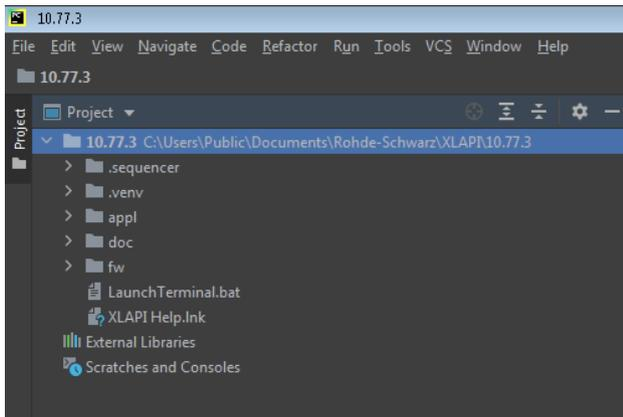

Figure 76 XLAPI project structure
- ▶ Now the actual project is loaded in PyCharm, e.g. 10.77.3. As a result, the whole project structure as shown in Figure 76 is created, including the virtual environment.